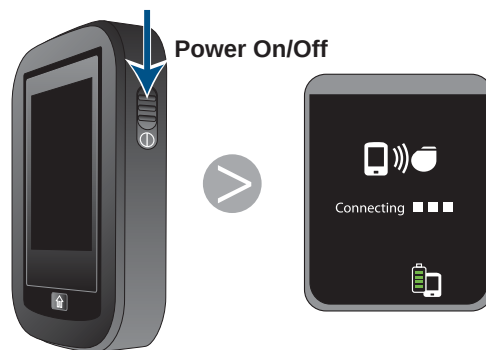

Figure 4. Turning power on or off
2. Slide the gray Power On/Off button down (*Figure 4*) and hold for approximately 2 seconds. While your Programmer Charger is establishing communication with your stimulator, a connecting screen appears.
- Slide the Power On/Off button down and hold for 2 seconds (*Figure 4*).